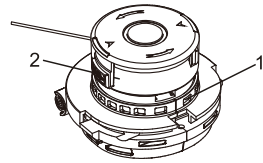
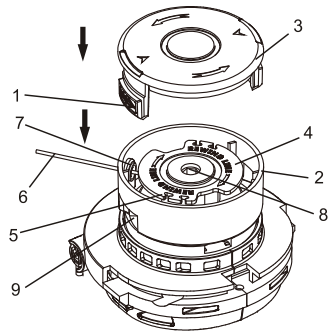
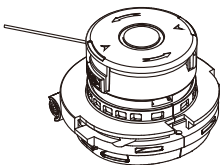

Fig. 14
Fig. 17
Fig. 18
1. Press the spool locking buttons (1) into the spool housing (2) (Fig. 14).
2. Pull the loose end of the trimmer line out of the retaining slot (5) in the spool (Fig. 17).
4. Thread the loose end of the trimmer line (6) through the hole (7) in the spool housing (2).
5. While holding pulling slightly on the loose line, slide the spool onto the housing spindle (8) as far as it will go.
6. Once the replacement spool is fully inserted into the spool housing, replace the spool cap (3) by inserting the locking buttons (1) into the spool housing.
7. Press the spool cap fully into the spool housing until the locking buttons "click" into the matching holes (9) in the spool housing.
8. When the new trimmer line spool is installed, approximately 3" (7.6 cm) of trimmer line should be exposed beyond the spool housing. If it is too long, cut it to length with scissors. If it is too short, press the line release button (10) on the trimmer line housing and gently pull on the exposed trimmer line (Fig. 18).
If the cutting circle is getting too small, the trimmer line may be either jammed on the spool or has run out. Manually advance the line as outlined in Fig. 18. If that fails, see "CORRECTING A JAMMED OR SHORT TRIMMER LINE" below.
When finished trimming, clean the underside of the guard and the spool. Advance the line as outlined in Fig. 18 to ensure the line is the correct length for the next trimming.
Press the line release button (10) on the trimmer line housing and gently pull on the exposed trimmer line until 3" (7.6 cm) of line is exposed beyond the spool housing (Fig. 18).
Remove the spool from the spool housing, unwind approximately 3" (7.6 cm) of line and reinstall the spool (Fig. 14 through Fig. 18).
Remove the spool from the spool housing, unwind all the trimmer line from the spool and rewind the trimmer line onto the spool (Fig. 14 through Fig. 18).
- b) Carefully wind the trimmer line onto the spool evenly to avoid overlapping wraps that will cause further jamming (Fig. 17).